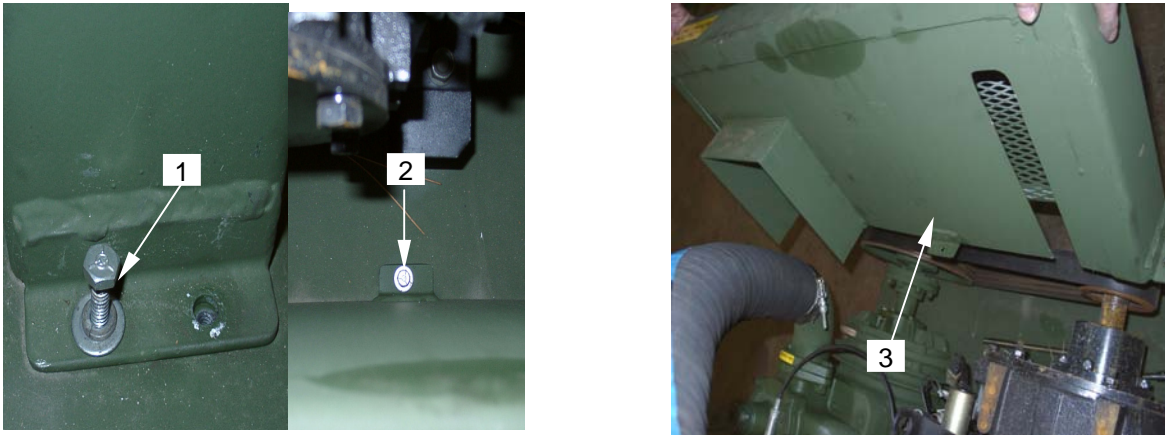

Figure 1. Inspecting Drive Belt
1. To remove drive belt guard proceed as follows: remove hex bolts (**figure 1, item 1**) on the drive belt guard brackets. Two are located at each end of the guard (**figure 1, item 1**), and one at the rear center (**figure 1, item 2**). Retain hardware.
- Remove drive belt guard (**figure 1, item 3**) to inspect condition of drive belt.